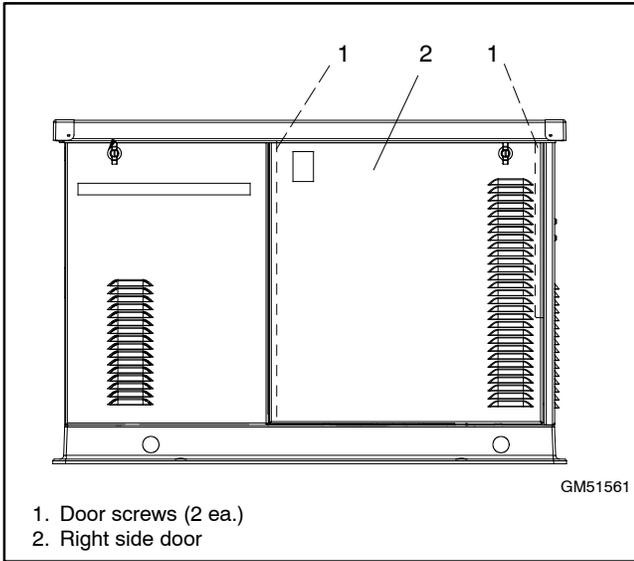

Figure 6-3 Right Side Door
- Remove two door screws. See Figure 6-3. Lift the service-side door up and off.